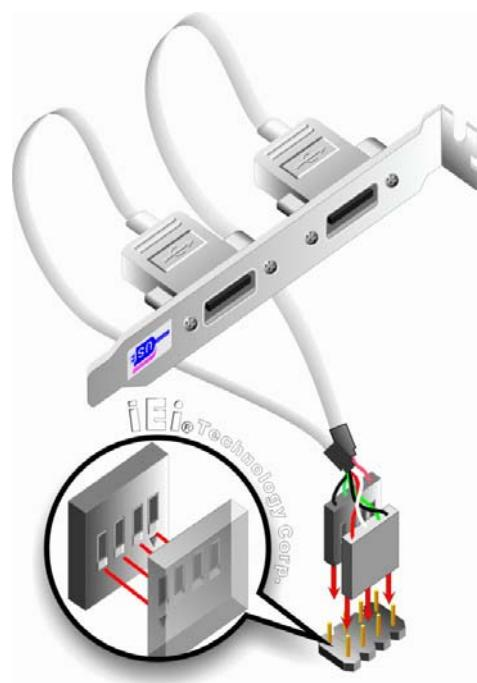

Figure 4-18: Dual USB Cable Connection
Step 3: Insert the cable connectors Once the cable connectors are properly aligned with the USB connectors on the PICOE-HM650, connect the cable connectors to the on-board connectors. See **Figure 4-18**.